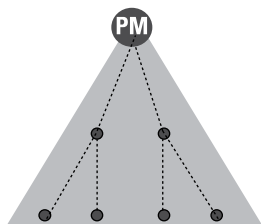

Figure 9-2: The hierarchy.
- ☐ **The hierarchy:** This allows some communication at lower levels, but referral through higher level managers for communication across teams. It can lead to delays and misunderstandings ('chinese whispers'), but it does put the managers in control. Figure 9-2 shows the structure of a typical hierarchy.